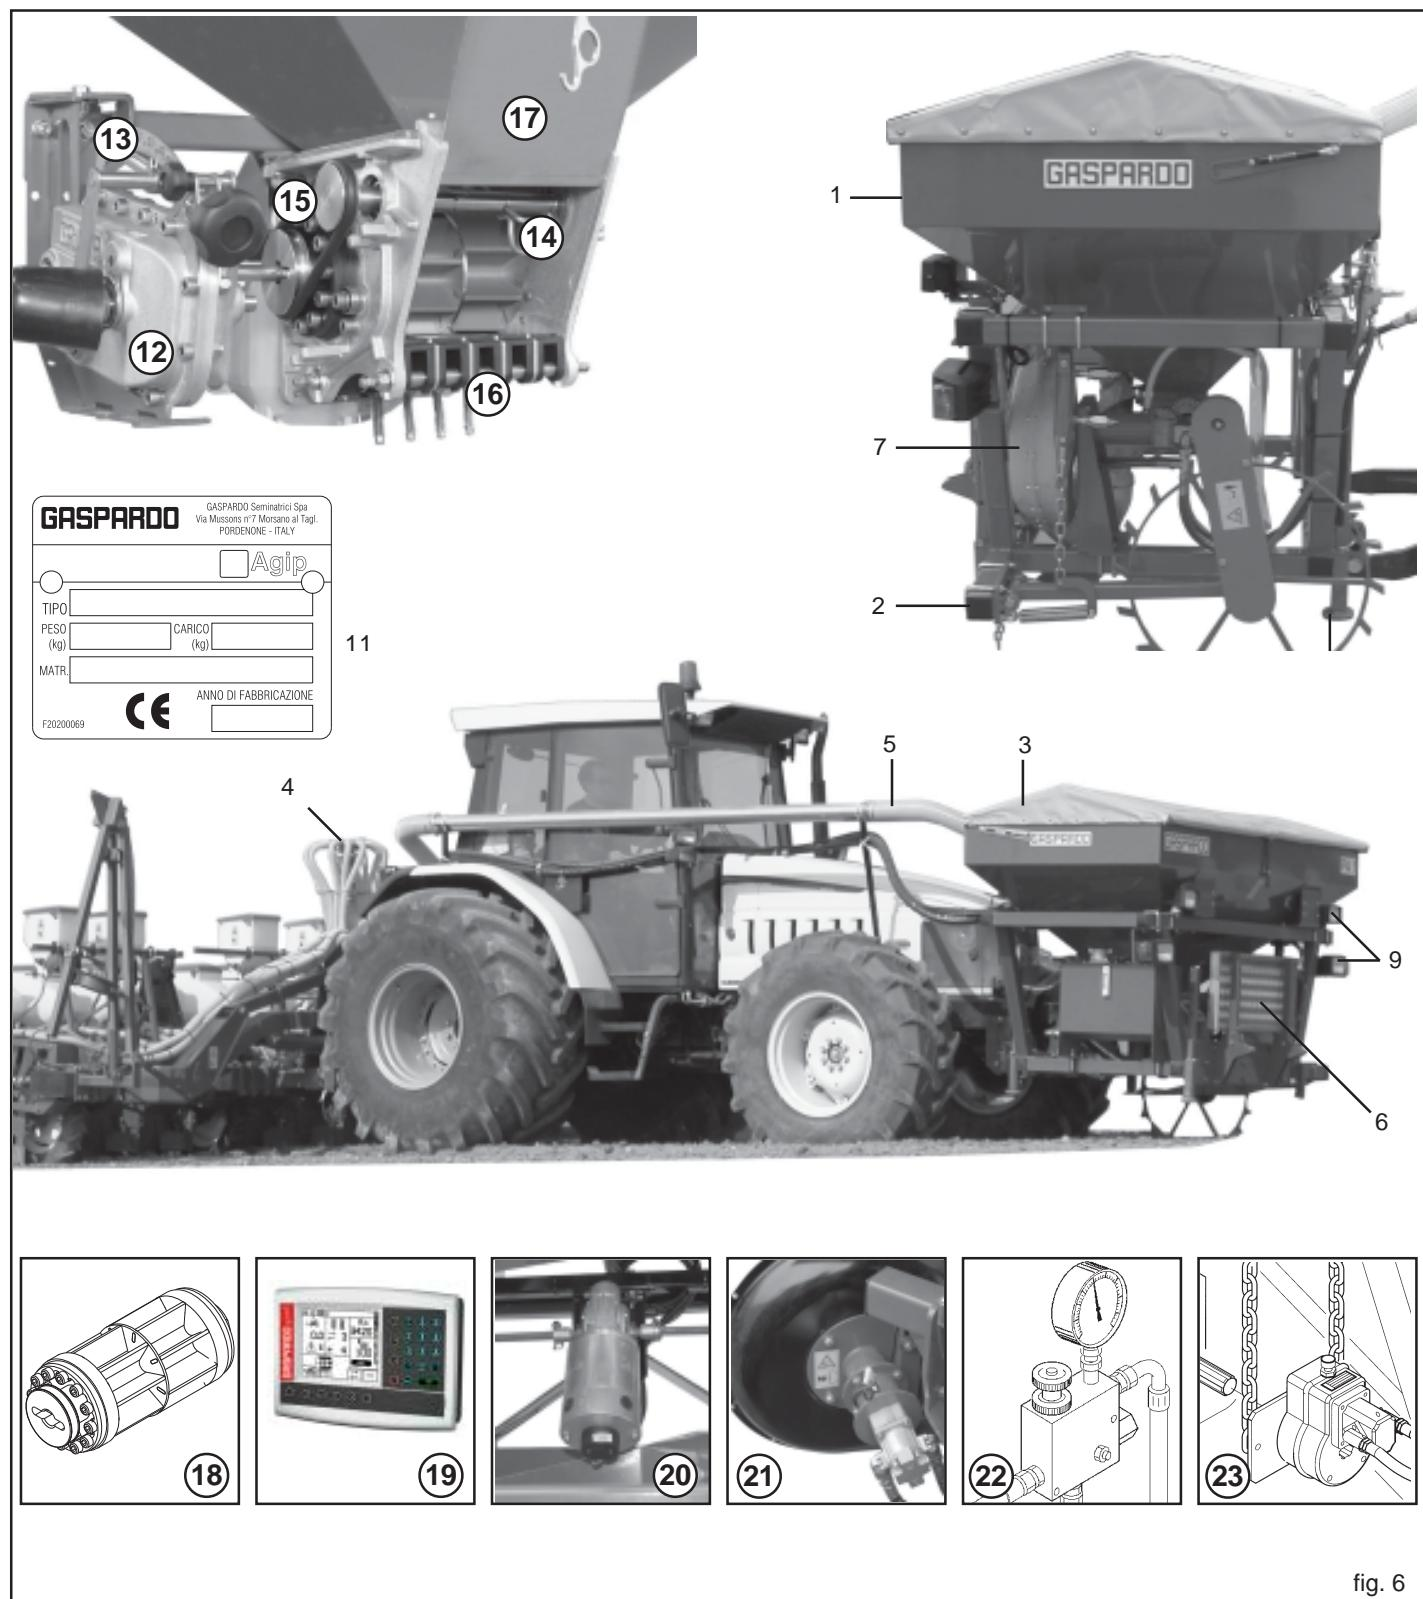

fig. 6
3.3 DESEN DE ANSAMBLU (Fig. 6)